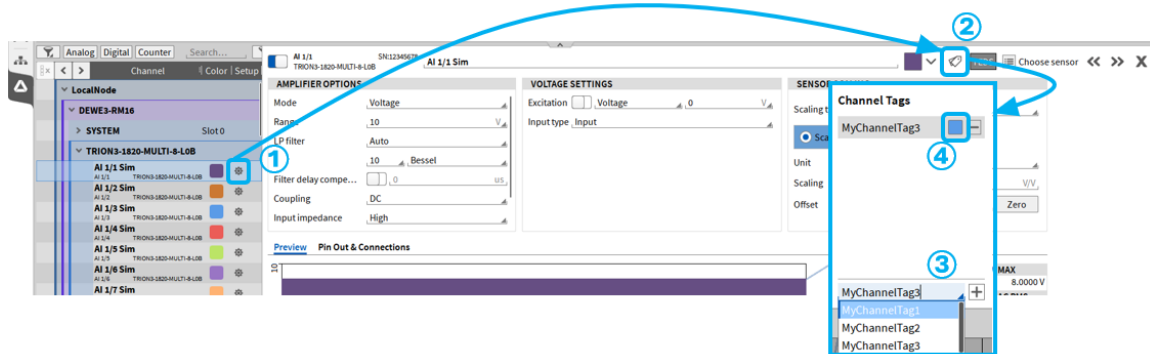
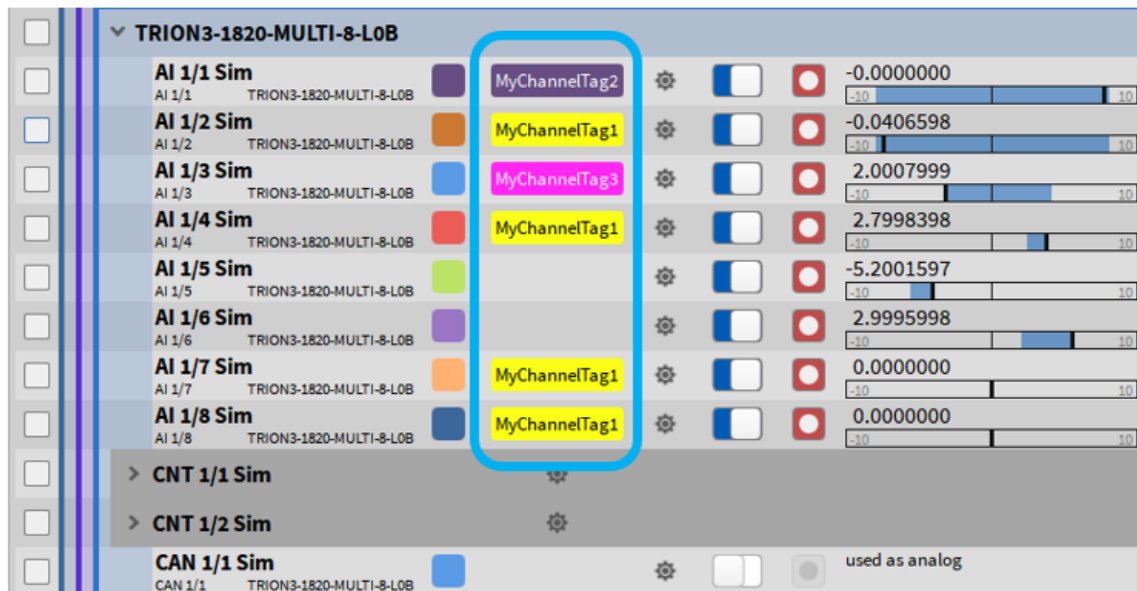

Fig. 7.13: Set Channel Tags for filtering
Fig. 7.14: Channel Tags in channel list
It is possible to define channel Tags and assign channels to them for additional grouping. This is possible in the detailed channels setup, which is accessible by clicking on the gear symbol of a channel (see ① in Fig. 7.13). By clicking on the Tag symbol (see ② in Fig. 7.13) a new window will be opened where a custom Tag name can be entered (see ③ in Fig. 7.13) or it is possible to select an already added channel Tag out of the list when clicking in the text field. By clicking on the “+” button next to the text field, the respective channel will be assigned to the selected Tag.
If a channel is linked to a specific Tag, it will be displayed directly in the channel list next to the name of the channel (see Fig. 7.14). It is also possible to set a specific color for each channel Tag (see ④ in Fig. 7.13). By clicking on one of the channel Tags all channels which are assigned to this Tag will be selected automatically in the channel list.